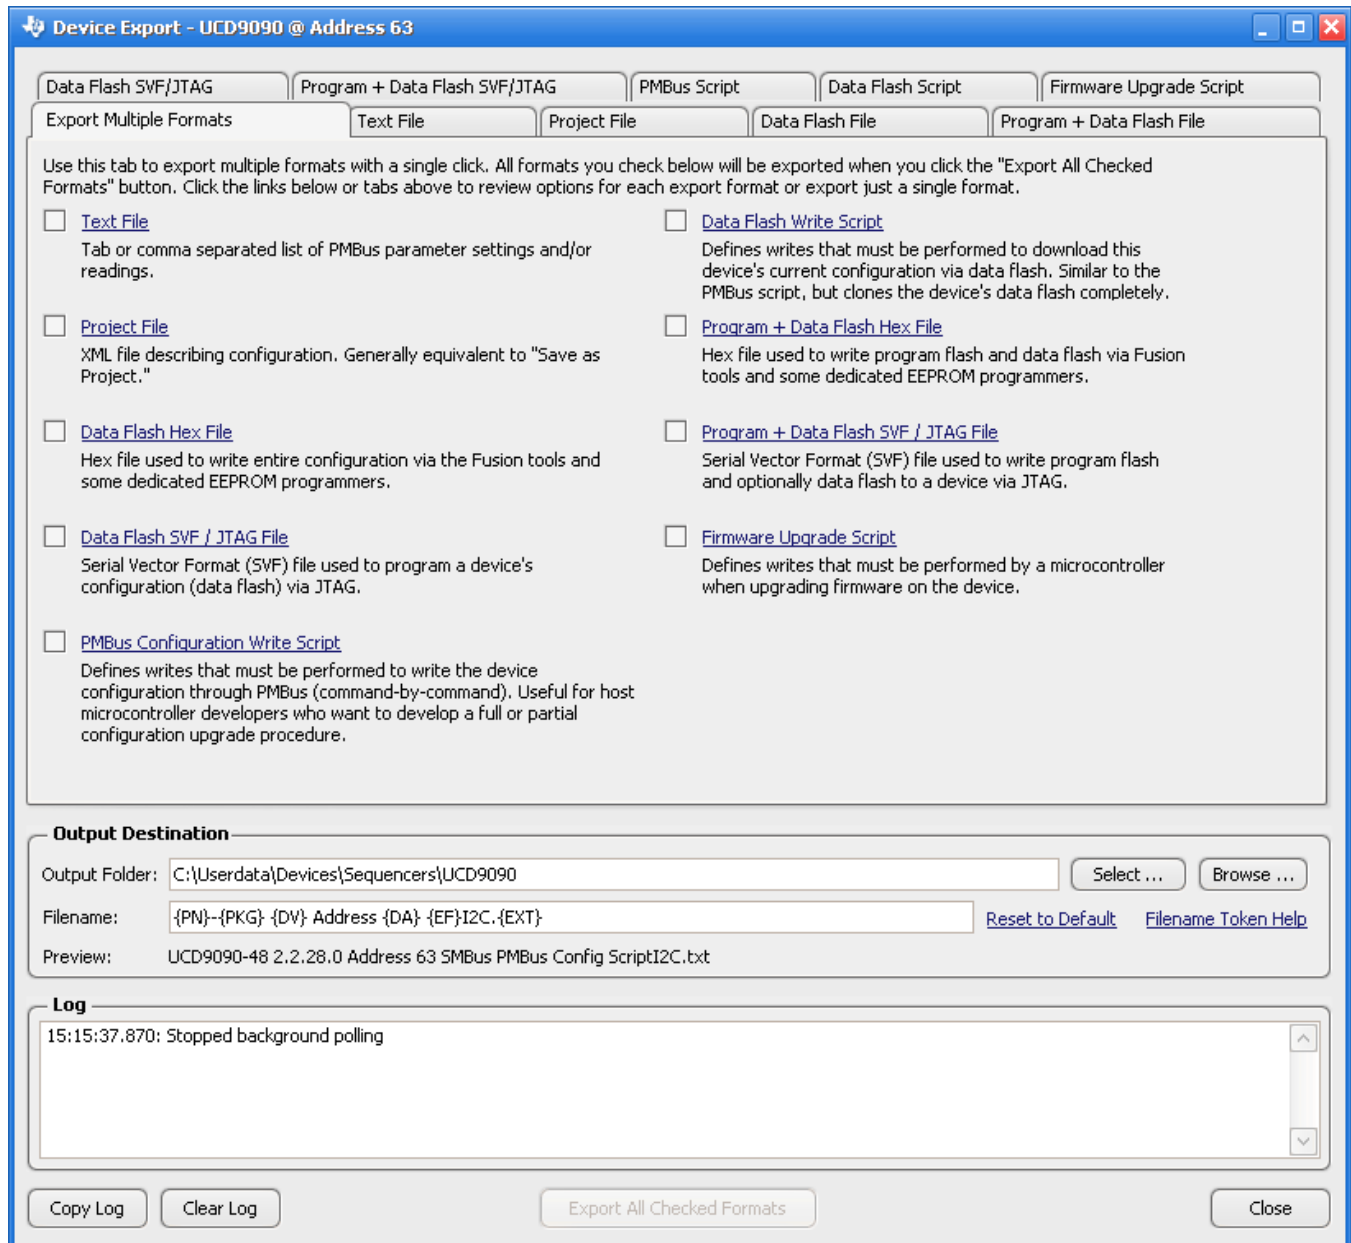

Figure 30. Fusion GUI Device Configuration Export Tool
- Another in-circuit programming option is for the *Fusion GUI* to create a data flash image from the configuration file (Figure 30). Export of the configuration files can be in Intel hex, serial vector format (SVF), or S-record. Download the image file to the device using I2C or JTAG. The *Fusion GUI* tools are usable on-board if the *Fusion GUI* can gain ownership of the I2C bus on the target board.